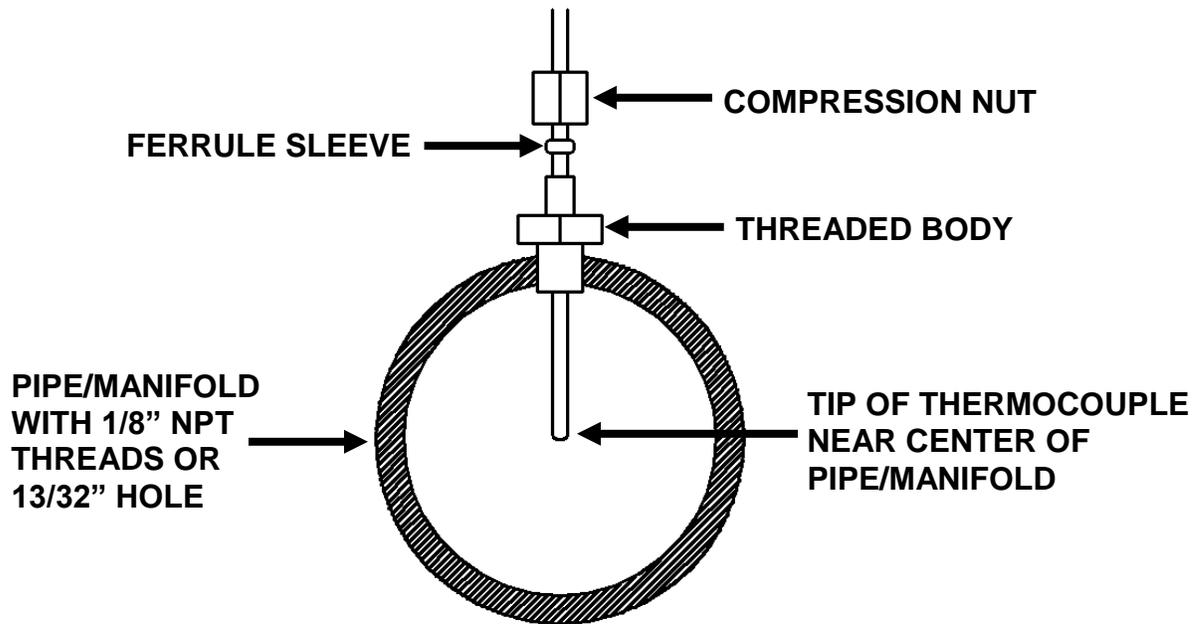

Figure 2. Thermocouple Mounting
2. Using the supplied Stainless Steel 1/8" NPT compression mount, mount the EGT thermocouple as shown in Figure 2. Common locations for mounting the EGT thermocouple are 1-2 inches from the exhaust port, 2-3 inches before the turbine inlet, or in the header collector.